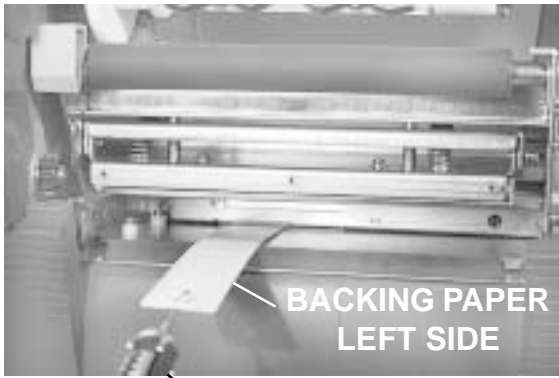

Fig. 5-10
3.	Attach a strip of 20mm + wide liner backing paper to the end of the tension gauge. Under the media cover, place the strip between the pressure rollers at one end with the print head assembly open. Gradually pull the tension gauge and measure the friction. Repeat at the opposite end of the rollers. Fig. 5-10 & 5-11